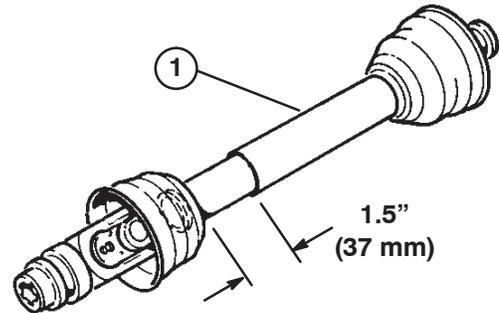

Figure 1
9. At it's shortest length, the two halves of the PTO shaft must have at least 1.5 inches (37 mm) of additional clearance to collapse (Fig. 1). If the dimension in step 7 is not at least 1.5 inches (37 mm) greater than the